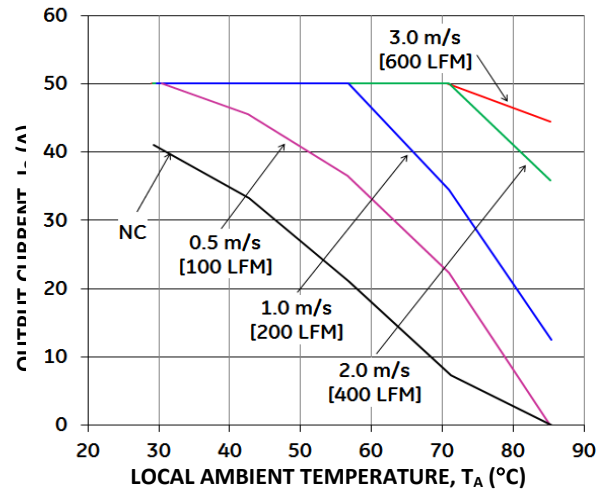

Figure 18. Output Current Derating for the QBVS050A0Bxx-H in the Transverse Orientation;
Increased airflow over the module enhances the heat transfer via convection. The thermal derating of figure 18- 21 shows the maximum output current that can be delivered by each module in the indicated orientation without exceeding the maximum THx temperature versus local ambient temperature (TA) for several air flow conditions.